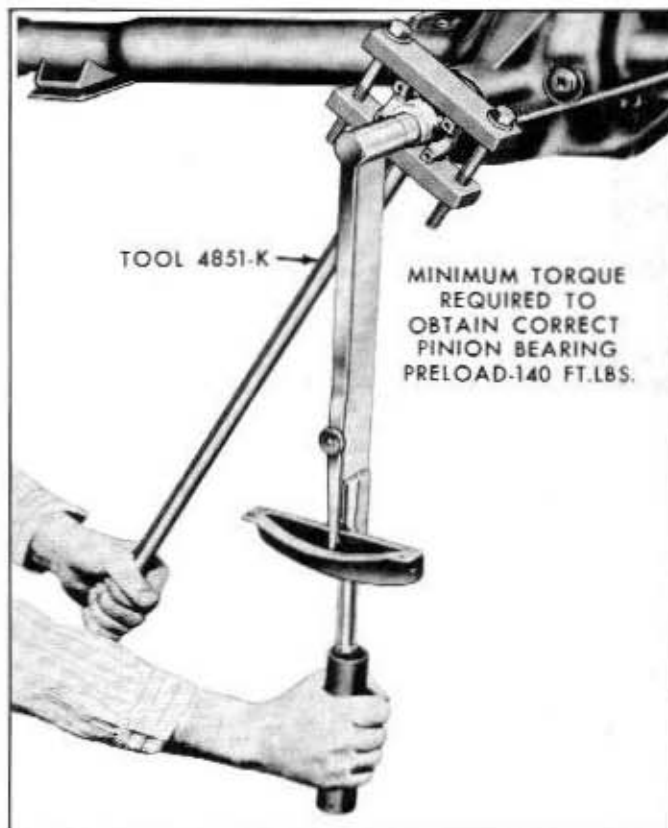

Fig. 4-28—Drive Pinion Shaft Nut Installation—(60C-5229)
7. Place the flat washer on the pinion shaft and start the nut. Hold the flange with Tool 4851-K and tighten the pinion shaft nut. As the pinion shaft nut is tightened the pinion shaft is pulled into the front bearing cone and into the flange. See figure 4-28. As the pinion shaft is pulled into the front bearing cone, pinion shaft end play is reduced. While there is still end play in the pinion shaft, the flange and cone will be felt to bottom. This indicates that the bearing cone and flange have bottomed on the collapsible spacer.